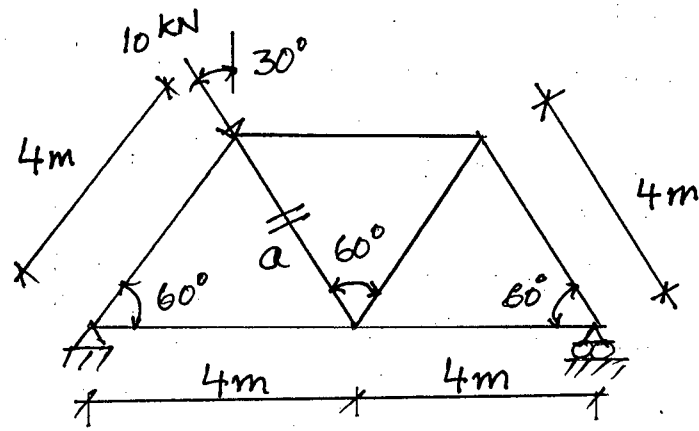

Figure 1
1. (a) Using method of joints, find the bar force "a" of the truss as shown in Figure 1. The 10 kN load at the joint is 30° inclined to the vertical. (12)